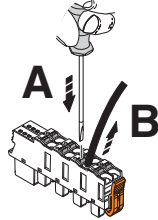

Figure 8-6 Removing the cable
- To remove a cable from the terminal point, press on the spring lever using a suitable tool (e.g., bladed screwdriver with a blade width of 2.5 mm). This opens the leg-spring connection of the relevant terminal point (Figure 8-6, A).
- Remove the conductor (Figure 8-6, B).